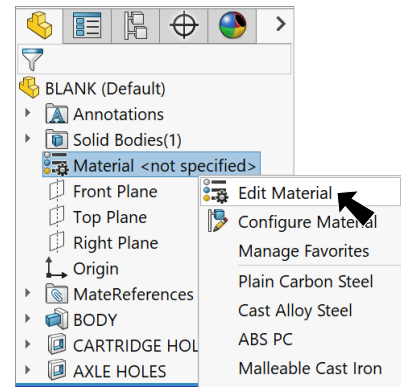

Fig. 28
Step 1. Right click **Material**  in the Feature Manager and click **Edit Material**, Fig. 28.